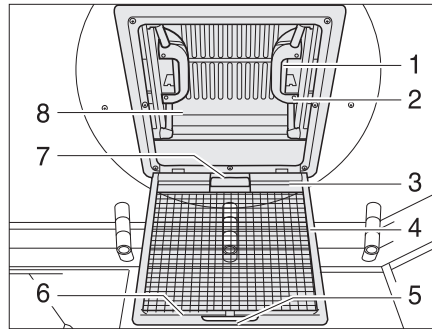

Fig. 42 Skylight with snap latch
- Pull on the handle (Fig. 42,5).
- Fold the insect screen (Fig. 42,4) downwards.
- Push the spring-loaded latch (Fig. 42,1) towards the inside of the skylight (Fig. 42,8). At the same time use the handle (Fig. 42,2) to press the skylight upwards.
- Swing the insect screen upwards (Fig. 42,4) until it latches in place.
- Using both handles (Fig. 42,2), pull down the skylight (Fig. 42,8) with force until the two snap latches (Fig. 42,1) lock into place.
- Pull the handle (Fig. 42,7) of the blind and hook the hook rail (Fig. 42,3) into the retainer (Fig. 42,6) on the insect screen.
- Release the hook rail (Fig. 42,3) from the retainer (Fig. 42,6) and feed the blind back slowly.